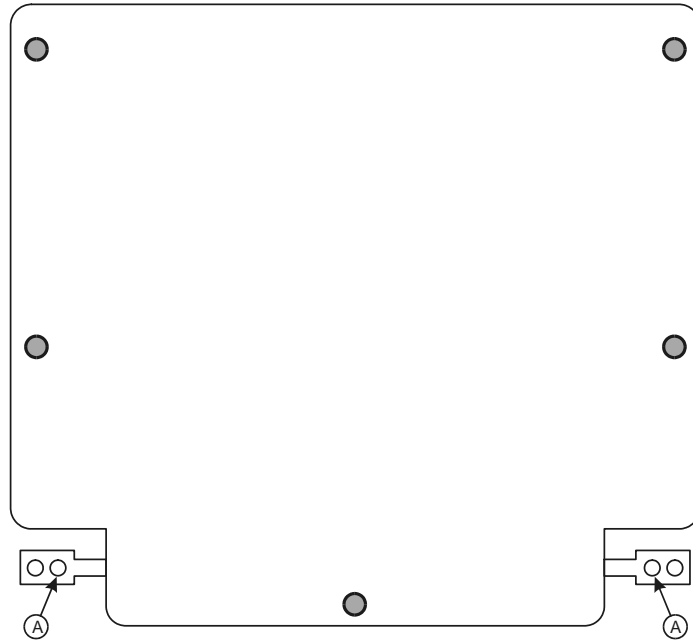

Figure 5-4 Display Screen Cover Removal
5. Remove the two hinge attaching screws (A). (See figure 5-4.)
2. Attach the two hinge attaching screws (A). (See figure 5-4.)